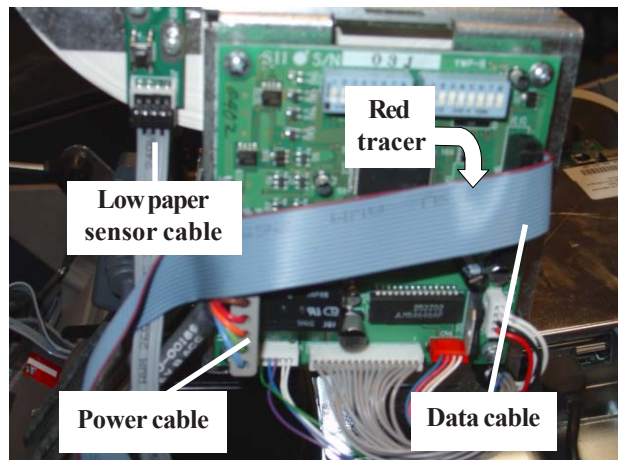

Figure 2. Disconnect cables shown.
3. Disconnect the power, data, and low paper sensor cables from the printer controller board shown in Figure 2.